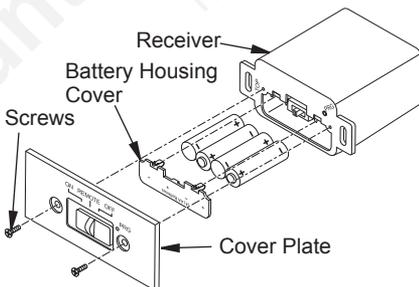

Figure 29 - Battery Install Remote Control Receiver
3. Attach cover plate to receiver with 2 screws as shown in Figure 29.